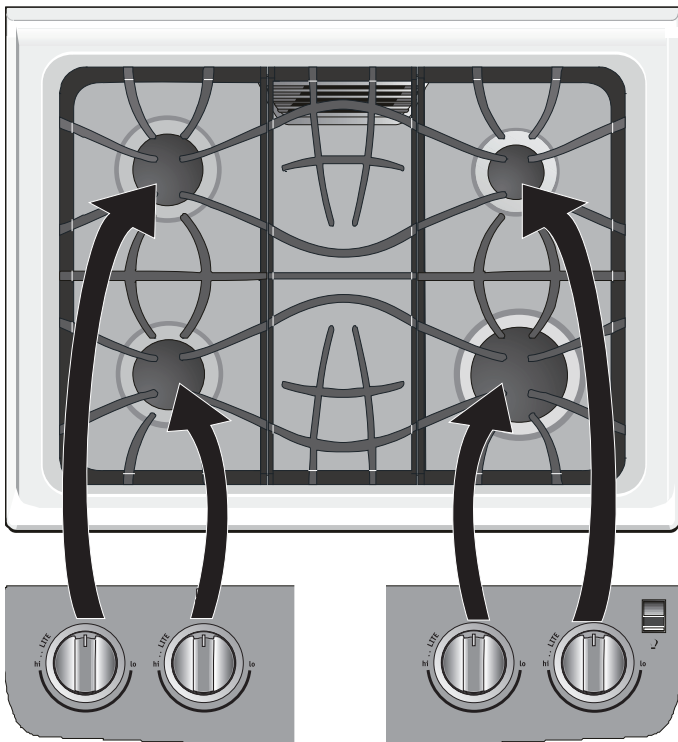

Figure 1: Burner locations
The small simmer burner is best used for simmering delicate sauces, etc. This burner is located at the right rear burner position on the cooktop (see Figure 1). The standard burner can be used for most surface cooking needs. The standard burners are located at the left front and left rear positions on the cooktop.
3. Release the knob and rotate to the LITE position (see figures 1 & 2). Note: All four electronic surface ignitors will spark at the same time. However, only the burner you are turning on will ignite.